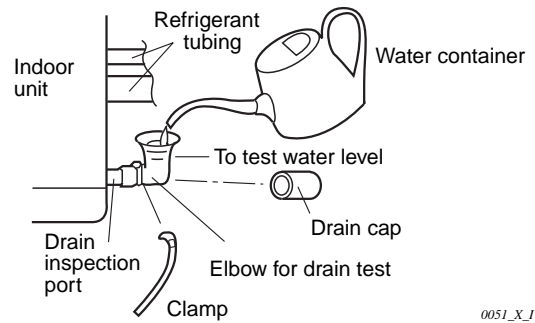

Fig. 3-17
- (1) Connect power to the power terminal board (L1, L2 terminal) inside the electrical component box.
- (2) Remove the insulator and drain cap from the drain inspection port, insert the supplied elbow, and connect it using the supplied clamp (Fig. 3-17).
- (3) Pour water into the opening of the elbow up to the marked level. Excess water will be prevented by a drainage hole.
- (4) Short the check pin (CN5 white) on the indoor control board and operate the drain pump. Check the water flow and see if there is any leakage.